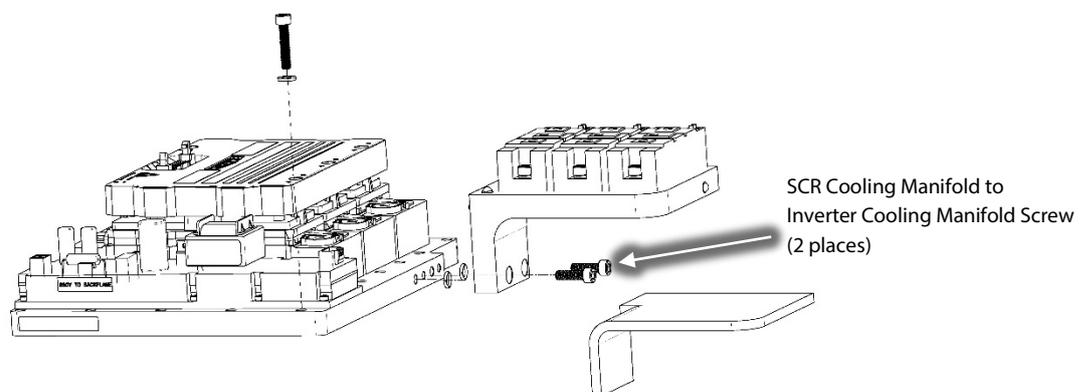

Figure 21 – SCR Cooling Manifold Removal
31. Carefully remove the SCR cooling manifold foam insulation in order to gain access to the two (2) screws shown in Figure 21 (SCR Cooling Manifold Removal).
**NOTE:** Do not completely remove the foam insulation, only pull back what is needed to access the two (2) screws.
32. Remove the two (2) screws indicated in Figure 21 (SCR Cooling Manifold Removal) and carefully remove the SCR Cooling Manifold.
33. Remove and discard the two (2) O-rings present after removal of the SCR cooling manifold from the Inverter Cooling Manifold.